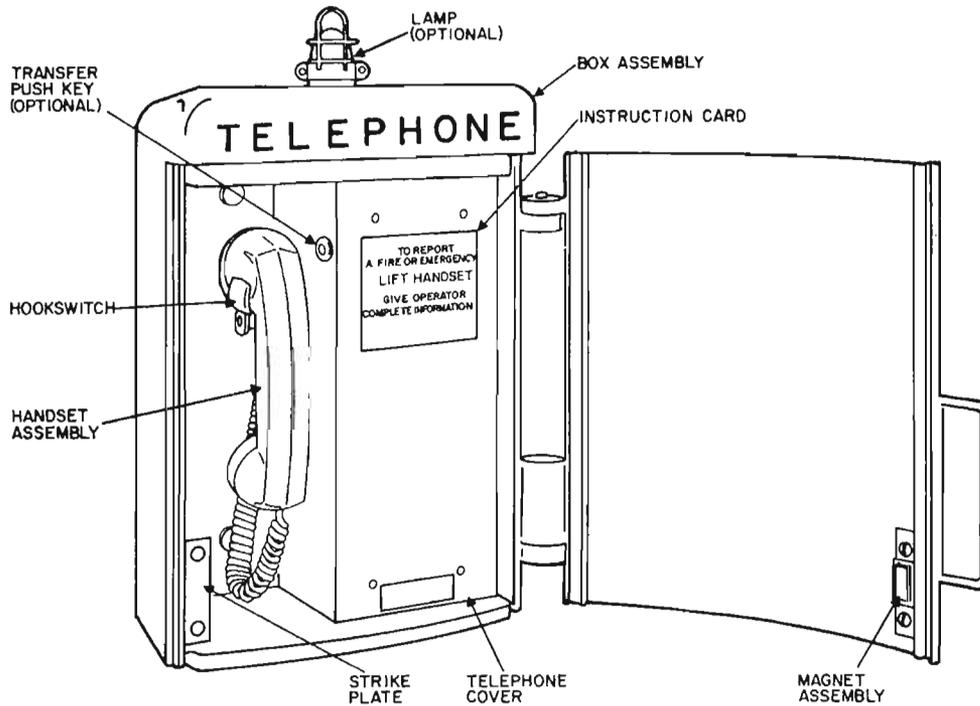

Figure 1. Emergency Telephone (Door Open).
2.01 The emergency telephone (Figure 1) consists of a weatherproof cast aluminum housing and, components of a nondial common battery telephone. A telephone handset and cord, a baseplate containing a hookswitch, and a transmission unit are the components that make up the emergency telephone. The housing is equipped with a hinged door at the front that is held in the closed position by a magnetic catch. Holes for mounting the telephone components and the housing are located on the back of the housing. The housing measures 12-5/8 inches wide, 16½ inches high, and 6-5/32 inches deep, and is finished in the following color schemes: